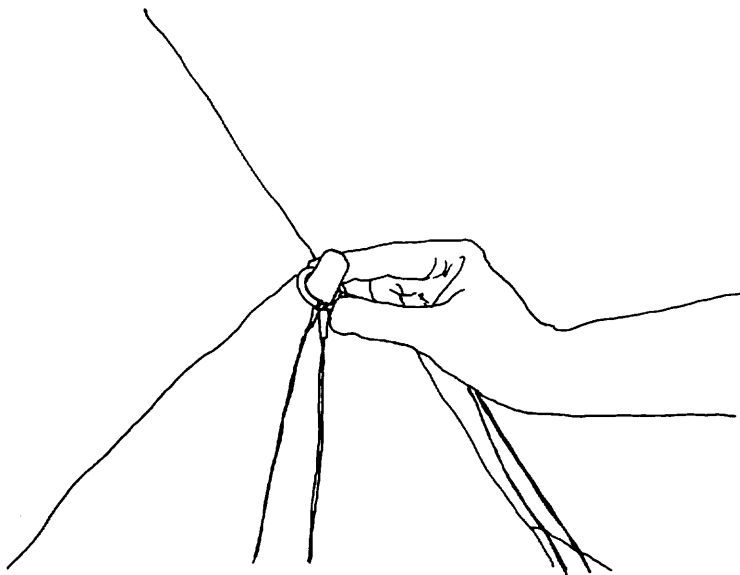

Fig 63
7) Detach the bridle ring from the snap hook. Remove the kingpost from the base by lifting straight up, and place the bridle ring over the kingpost base. (Fig 63)